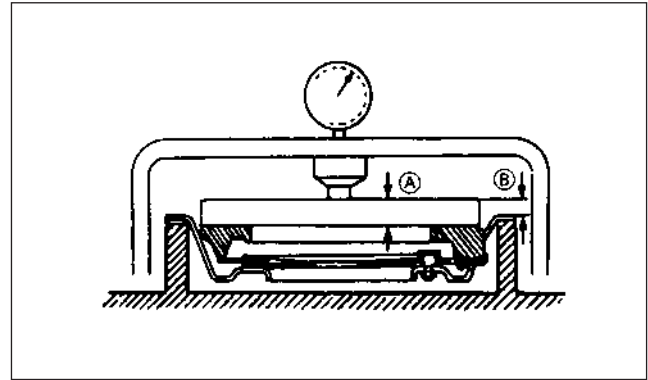

Figure 11. Pressure plate clamping force.
- Pressure plate clamping force. Invert the pressure plate and position an 9.2 mm (0.36 in) thick plate (A) over the pressure plate with hydraulic press. Then observe the load gage reading when the dimation (B) becomes 19 mm (0.75 in) as indicated in figure 11. Replace the pressure plate assembly if the clamping force is less than 970 kg (2,139 lb).